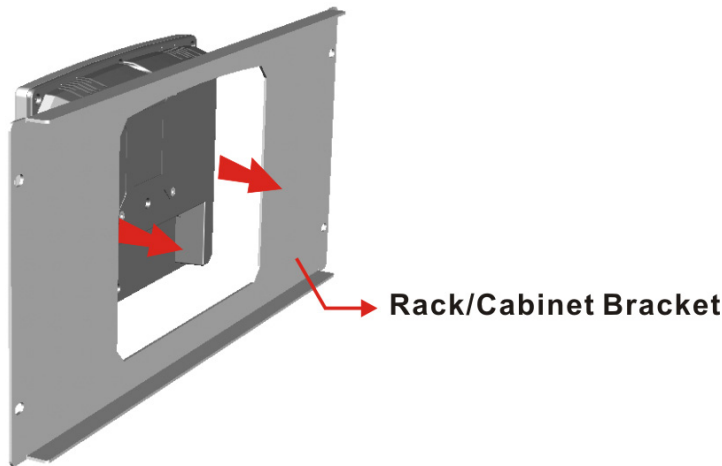

Figure 3-29: Rack/Cabinet Bracket Installation
- Step 1:** Slide the rear chassis of the AFL3-W10A/12A/W15A-AL panel PC through the rack/cabinet bracket until the frame is flush against the front of the bracket (Figure 3-29).